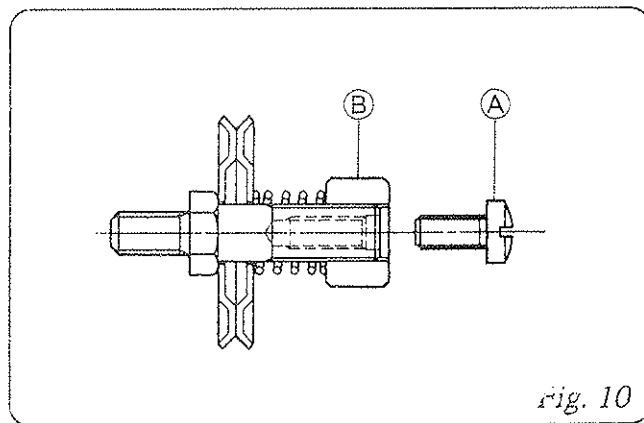

Fig. 10
#### 1. Thread Tension (Fig.10)
The thread tension is preset at the factory to sew PP woven cloth bags. If some adjustment is needed, first loosen screw (A) (9/64S40054) and adjust the thread tension nut (B) (245092) as per Fig.10. When the adjustment is finished, retighten screw to lock the thread tension nut.